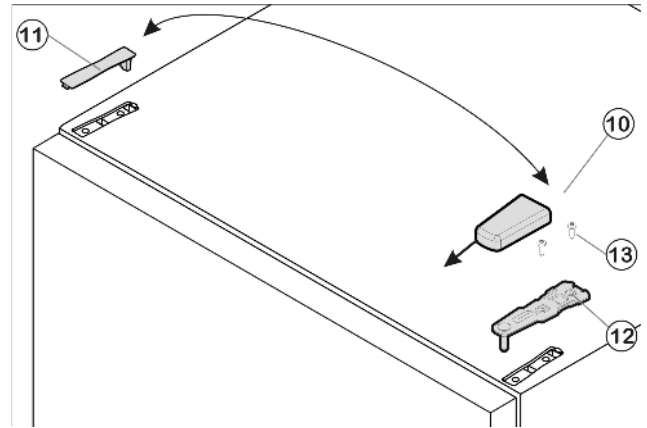

Fig. 20
▶ Pull cover *Fig. 20 (10)* forward and then upwards to remove.
▶ Lift off cover *Fig. 20 (11)*.
▶ Unscrew upper bearing bracket *Fig. 20 (12)*(2 x Torx 25) *Fig. 20 (13)* and pull it upwards to remove.
- ▶ Insert the upper bearing bracket *Fig. 20 (12)* on the new hinge side into the door.
- ▶ Secure the upper bearing bracket *Fig. 20 (12)* **tightly by applying a torque of 3 lb-ft (4 Nm)** (2 x Torx 25) *Fig. 20 (13)*. Make preliminary holes (optional) or use a cordless screwdriver.
- ▶ Snap both cover *Fig. 20 (10)* and cover *Fig. 20 (11)* into place on the opposite side.